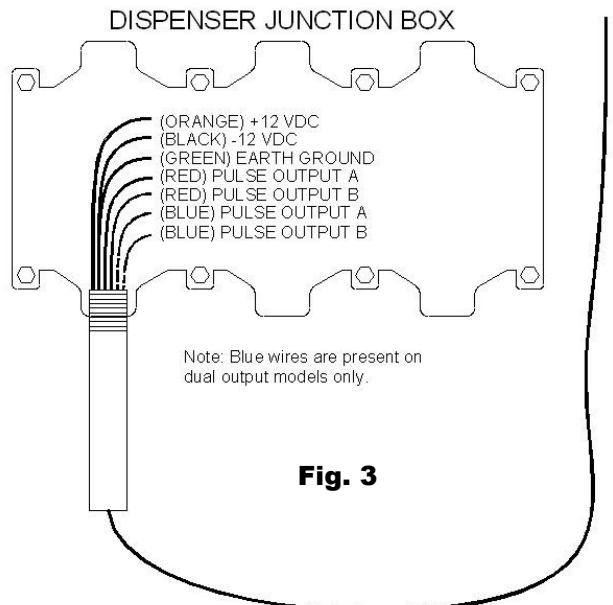

Fig. 3
6. Mount the pulser barrier and connect the wires as shown in Fig. 3. The pulser should be wired so that power is applied only when the handle switch is on. Note that the pulse output is a contact closure type, and the red wires (and blue wires for dual output models) are not polarity sensitive.